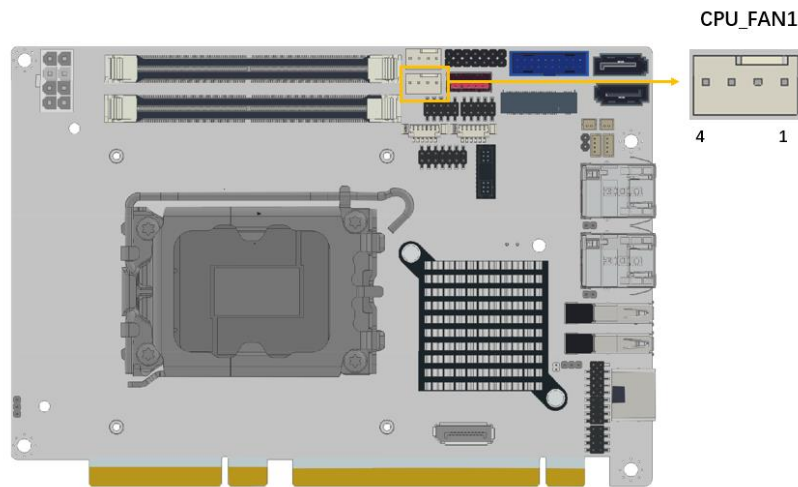

Figure 3-13: CPU Fan Connector Location
- CN Location:** See **Figure 3-13**